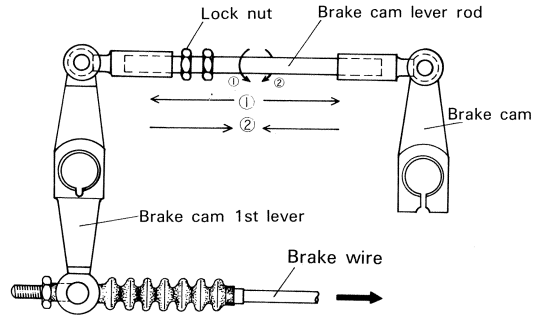

Fig. 9-2-1 Adjusting front brake cam lever connecting rod
- 2) Turn the connecting rod toward the direction of ① as shown in the Fig. 9-2-1.
- 4) Turn the connecting rod toward the direction of ② and the brake cam second lever will be drawn. When the brake shoes come in contact with the drum, the connecting rod will no longer rotate. So stop turning here.